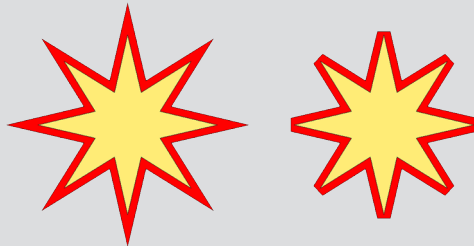

Fig. 77 - Two star shapes with outlines. The second star has an outline that has been clipped at 70%.
- ❑ **Miter:** Corners of shadow outline are clipped (See Fig. 77 for the *Miter Limit* description under *Outlines and Inlines* for an example)